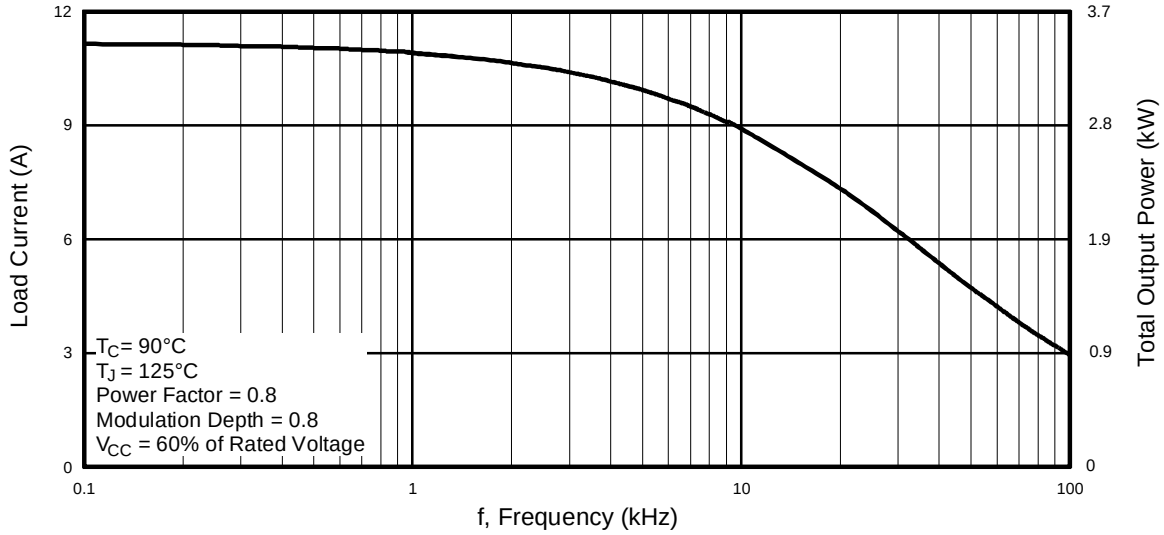

Fig. 1 - RMS Current and Output Power, Synthesized Sine Wave
- Optimized for medium operating frequency (1 to 10kHz) See Fig. 1 for Current vs. Frequency curve
4.6 A_{RMS} per phase (1.4 kW total) with $T_C = 90^\circ\text{C}$, $T_J = 125^\circ\text{C}$, Supply Voltage 360Vdc, Power Factor 0.8, Modulation Depth 80% (See Figure 1)